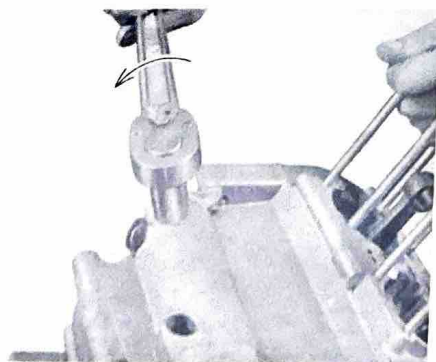

Fig. 4-16-5
- 2) Remove the neutral, stopper mechanism. (Figs. 4-16-5, 6)